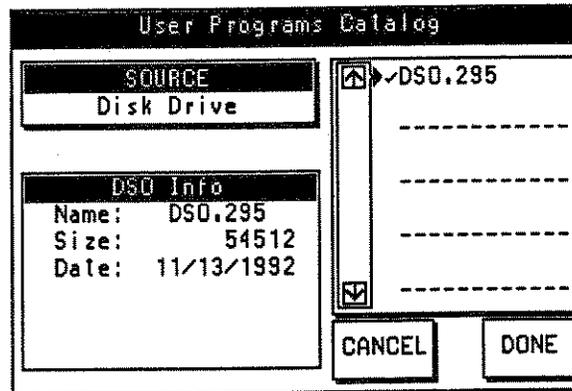

Figure F-2. User Programs Catalog
4. The screen displays the User Programs Catalog; see figure F-2.